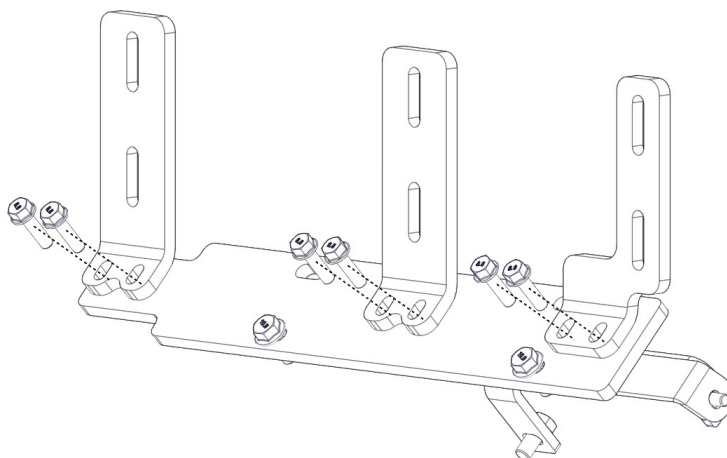

Figure 43.
6. Insert and torque down the two bolts to all supporting brackets (Figure 43) on the lock-off plate to 22 ft/lbs.